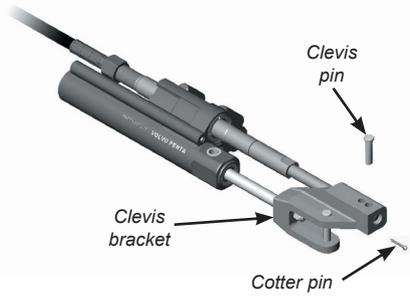

Fig B32 - Steering cylinder in mid stroke position
- i) Use manual helm to set the steering cylinder to the mid stroke position as shown in Fig B32 (it may be necessary to run the engine to do this).